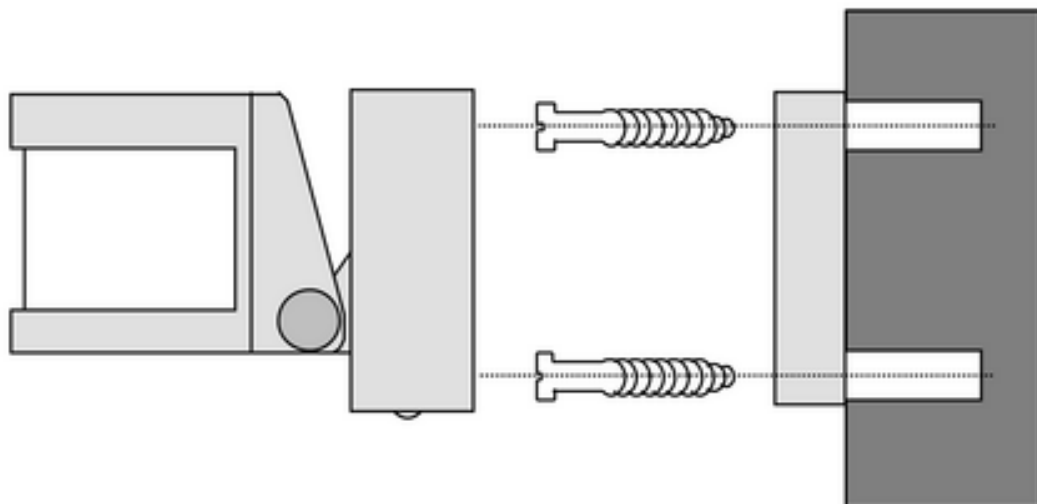

Figure 10
- Fasten the base plate (6) with 2 screws (Figure 10).